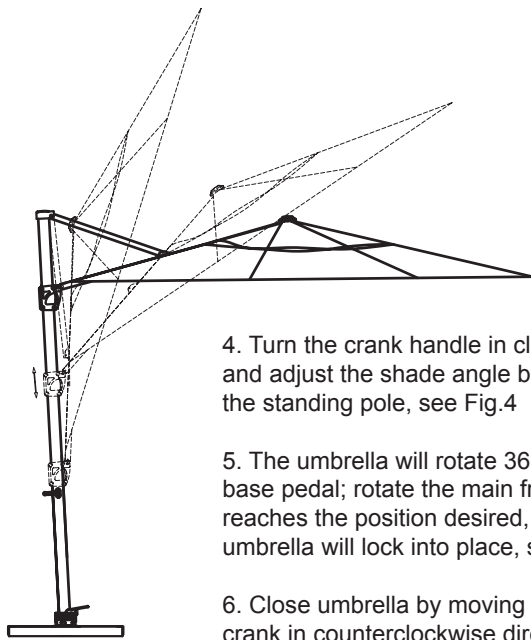

Fig.4
4. Turn the crank handle in clockwise direction to open the umbrella, and adjust the shade angle by moving the slider to different hole on the standing pole, see Fig.4